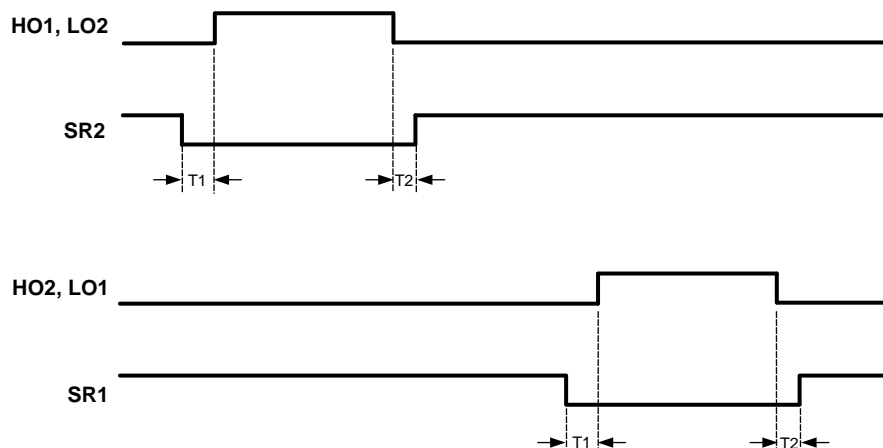

Figure 15. Synchronous Rectifier Timing Diagram
Synchronous rectification (SR) of the transformer secondary provides higher efficiency, especially for low output voltage converters, compared to the diode rectification. The reduction of rectifier forward voltage drop (0.5V - 1.5V) to 10mV - 200mV VDS voltage for a MOSFET significantly reduces rectification losses. In a typical application, the transformer secondary winding is center tapped, with the output power inductor in series with the center tap. The SR MOSFETs provide the ground path for the energized secondary winding and the inductor current. From Figure 15 it can be seen that when the HO1/LO2 diagonal is turned ON, power transfer is enabled from the primary. During this period, the SR1 MOSFET is enabled and the SR2 MOSFET is turned-off. The secondary winding connected to the SR2 MOSFET drain is twice the voltage of the center tap at this time. At the conclusion of the HO1/LO2 pulse, the inductor current continues to flow through the SR2 MOSFET body diode. Since the body diode causes more loss than the SR MOSFET, efficiency can be improved by minimizing the T2 period while maintaining sufficient timing margin over all conditions (component tolerances, etc.) to prevent the shoot-through current. When HO2/LO1 enables power transfer from the primary, the SR2 MOSFET is enabled and the SR1 MOSFET is off.